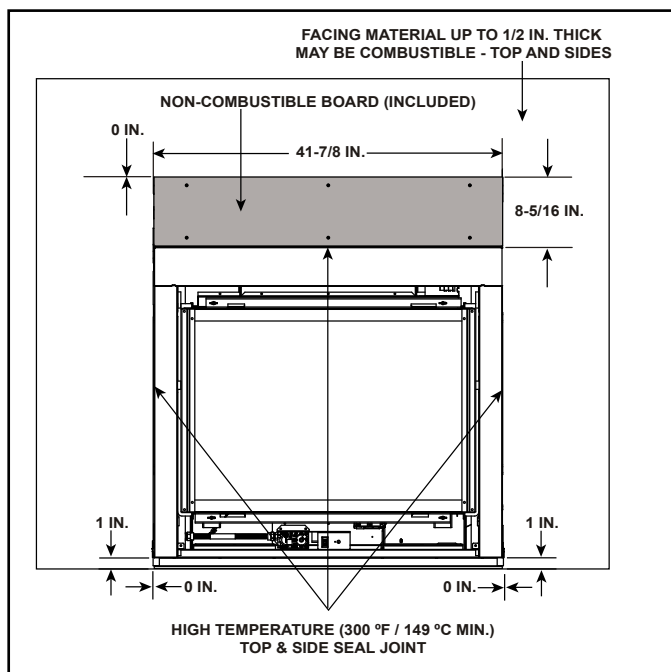

Figure 8.8 Non-combustible Facing Diagram (Interior)
- Seal gaps between the finished wall and appliance top and sides using a 300 °F minimum sealant. Refer to Figure 8.8.